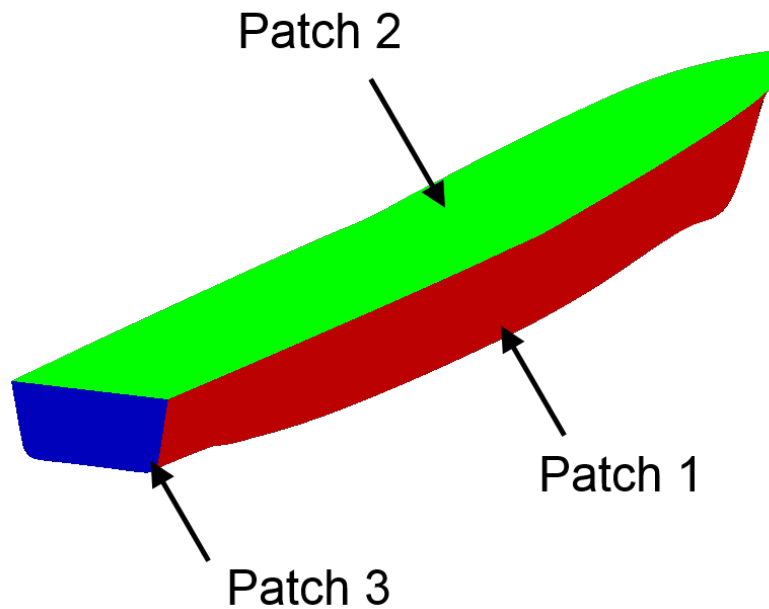

Figure 9: Generic vessel patches defined for keel, top, and transom.
- ☞ Surface discontinuities are handled by using multiple patches. For example, the hull of a ship may be formed by many patches due to the discontinuities of the top, sides, and transom of the ship, as seen in Figure 9.